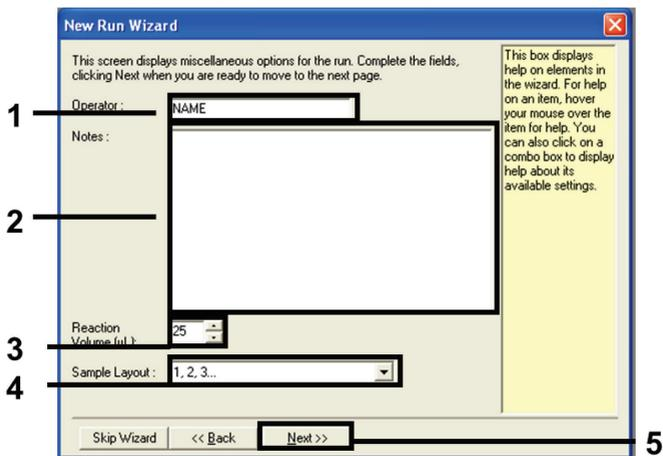

Figure 2. Entering operator name and reaction volumes.
- Enter the name of the operator in the **Operator** field. Add any notes and set the value in the **Reaction Volume** field as **25**. Ensure that the values in the **Sample Layout** field is set as **1, 2, 3...** Click Next (Figure 2).